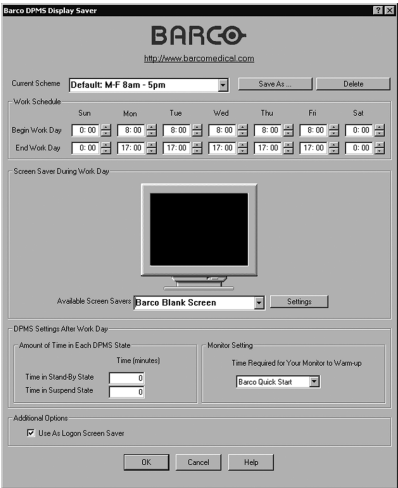

Figure 25: Barco DPMS Settings Control Panel
- 2. Click on the **“Settings”** button. The “Barco DPMS Screen Saver Control Panel” will open (see figure 25 on page 70).